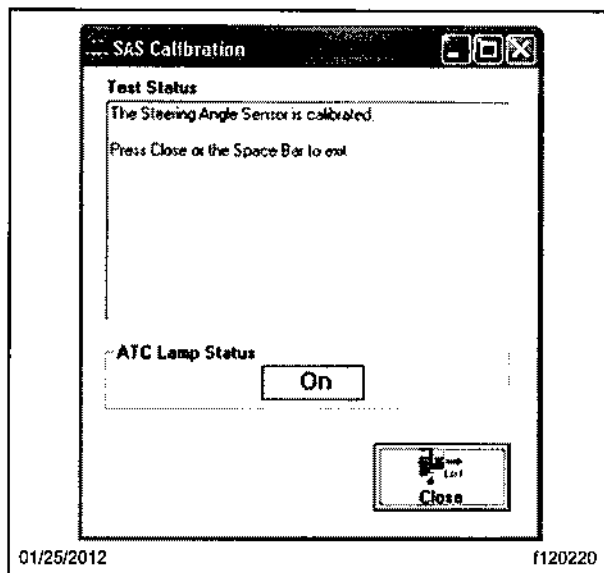

Fig. 12, SAS Calibrated
7. The message box will indicate when the SAS has been calibrated. Once the SAS is calibrated, click "Close" or press the space bar to continue. See Fig. 12